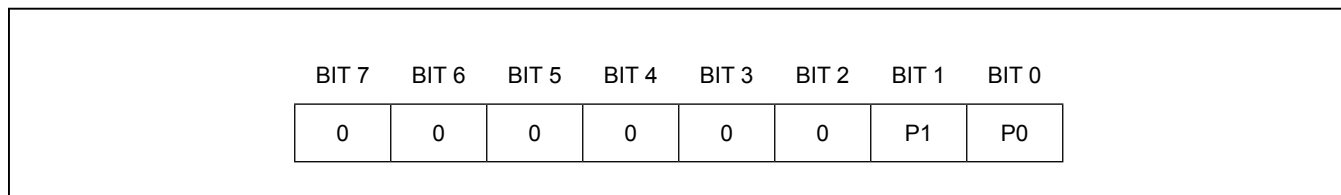

Figure 8. Pointer Byte
**Pointer Byte:** The pointer byte is used by the master to tell the DS75LV which register is going to be accessed during communication. The six MSBs of the pointer byte (see Figure 8) are always 0 and the two LSBs correspond to the desired register as shown in Table 5.